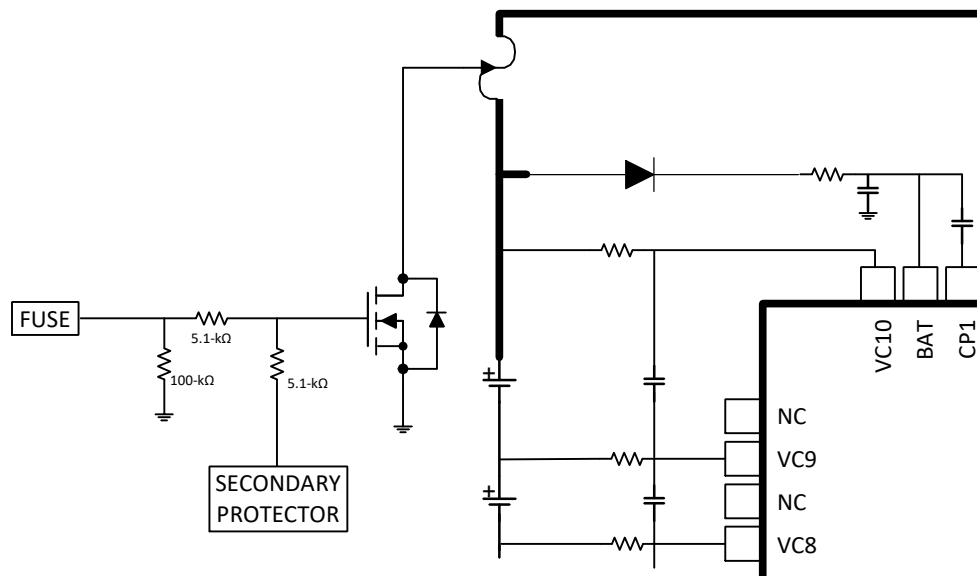

Figure 12-1. FUSE Pin Operation
The FUSE pin on the BQ76942 device can be used to blow a chemical fuse in the presence of a permanent fail (PF), as well as to detect if an external secondary protector in the system has detected a fault and is attempting to blow the fuse itself. The pin is intended to drive the gate of an NFET, which can be combined with the drive from an external secondary protector, as shown in Figure 12-1. When the FUSE pin is not asserted by the BQ76942 device, it remains in a high-impedance state and detects a voltage applied at the pin by a secondary protector. The device can be configured to generate a PF if it detects a high signal at the FUSE pin.